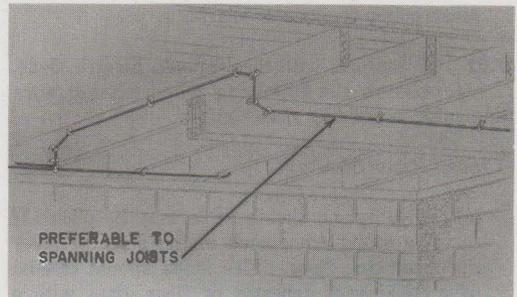

Fig. 8—Spanning Joist
- (g) If necessary to span joists, run wiring not more than 3 inches from wall (see Fig. 8).